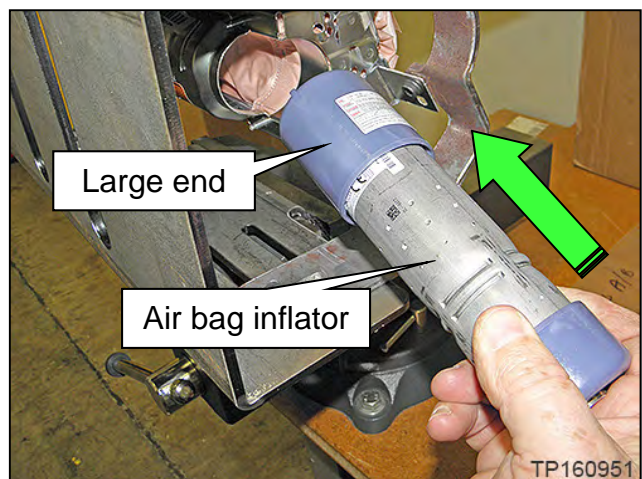

Figure 30
31. Remove the new air bag inflator from the box, and then install it into the air bag module, as shown in Figure 30.